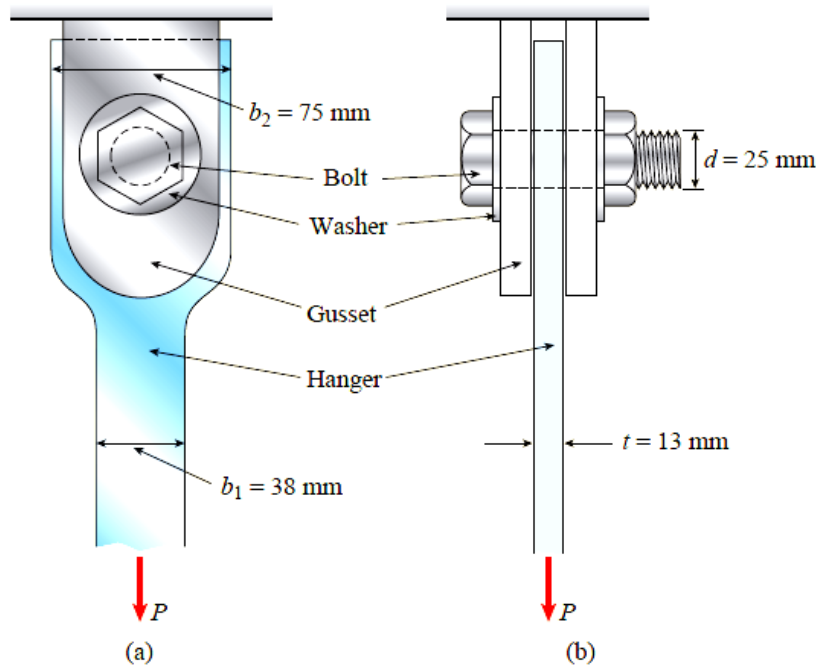

Figure 1.1
- b) A steel bar serving as a vertical hanger to support heavy machinery in a factory is attached to a support by the bolted connection shown in Figure 1.1. The main part of the hanger has a rectangular cross section with width $b_1 = 38$ mm and thickness $t = 13$ mm. At the connection the hanger is enlarged to a width $b_2 = 75$ mm. The bolt, which transfers the load from the hanger to the two gussets, has diameter $d = 25$ mm. Determine the allowable value of the tensile load P in the hanger based upon the following four considerations: